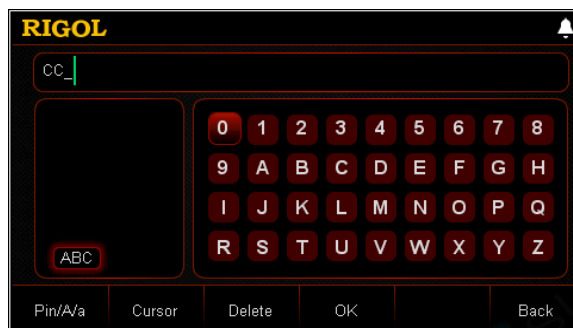

Figure 2-51 Filename Input Interface (uppercase English letters)
- Uppercase/lowercase English letters (as shown in Figure 2-51):